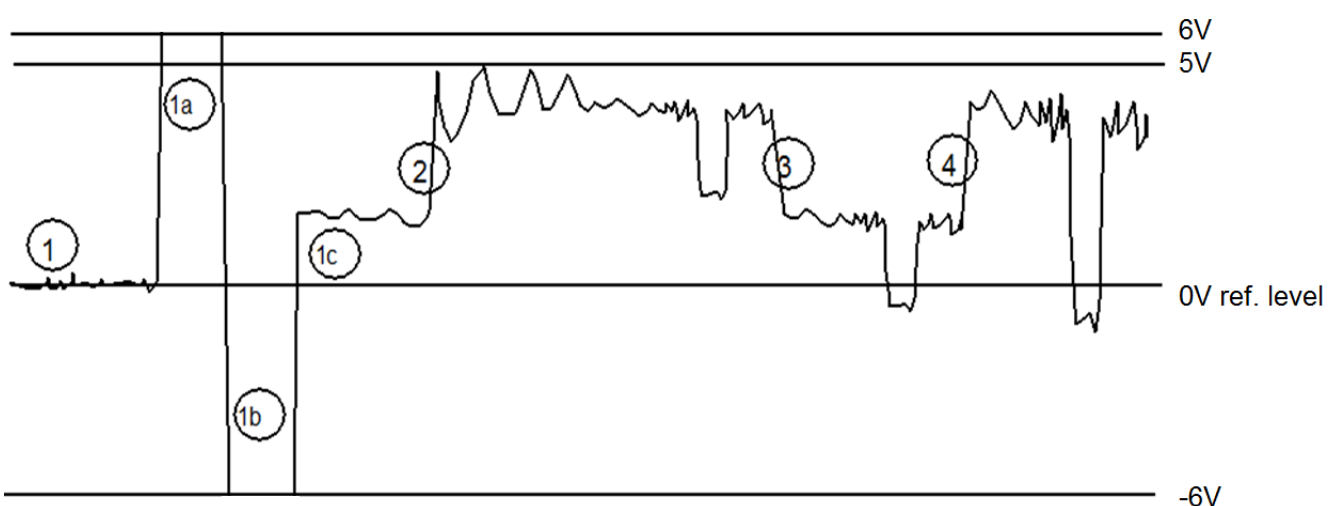

Figure 9. Optimal plant voltage adjustment for EPG recording
2. Lower all wired insects onto the plant and wait for the first penetration in any channel. Select that channel (see: Digital Giga-8d operation, p.5 & 6) Adjust Vplant from any position (e.g. Fig. 9 signal levels 1a, 1b, or 1c) so that it will become in position after 2, i.e. maximally at about 4-5 Volt output voltage in the computer panel or Vout on the Giga-8d display. The Gain should be 50x first. When not probing voltage on both devices should be close 0 Volt base on both displays.